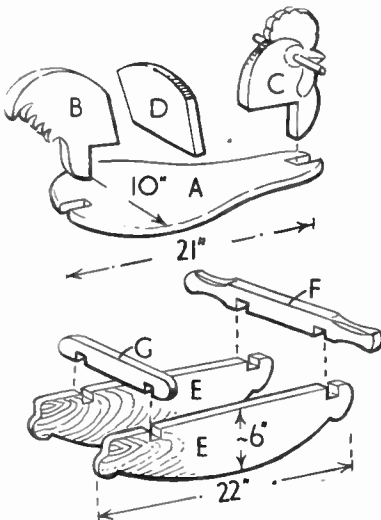

Fig. 1—Details of the various parts
Next, the rocker part of the chair can be made up, and this consists of four pieces, two pieces (E) and one piece each (F) and (G). The method of joining together is clearly shown in Fig. 1 and the main dimensions are also given. Piece (F) is 14ins. long and measures 2ins. by 1in. while piece (G) is made
The parts are lettered alphabetically, and we will deal with them in that order. The seat (A), as will be seen in Fig. 1, measures 21ins. long by 10ins. wide. It can be shaped according to taste, but we suggest the approximate shape shown.